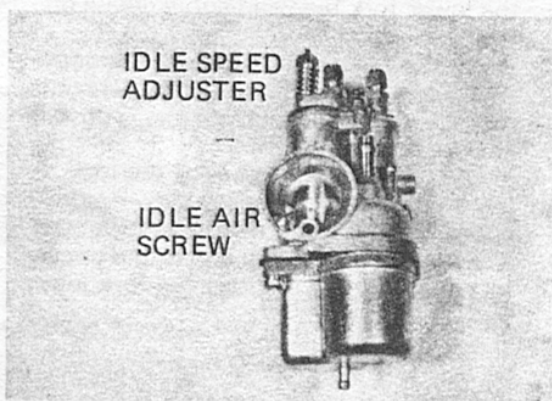

Fig. 35
1. Turn idle mixture screw in gently against the seat (Figure 35).